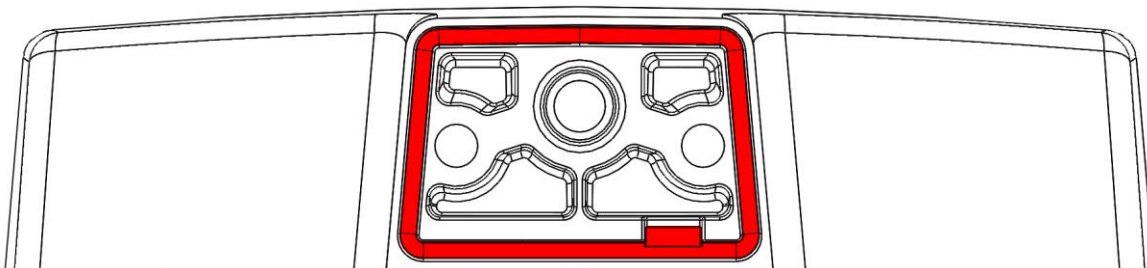

Figure 3 – RSX arm sealing gasket (red)
**Step 6:** Check the back of the luminaire housing to ensure the arm sealing gasket (figure 3) has not dislodged, been dirtied, or been damaged. If the gasket has been dislodged it can be gently pressed back into the groove in the housing. If the gasket appears dirty or damaged, remove it and replace it with the gasket included with the repair kit. The molded gasket matches the perimeter shape of the groove in the housing and should not be stretched for installation. Simply push the gasket into place with light pressure.